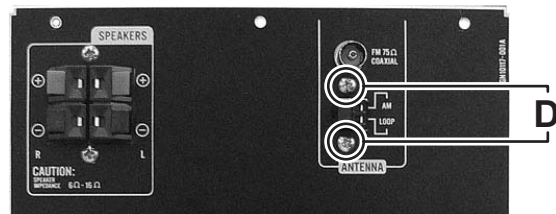

Fig.7
- (2) Remove the two screws **D** attaching the Tuner pack. (See Fig.7)